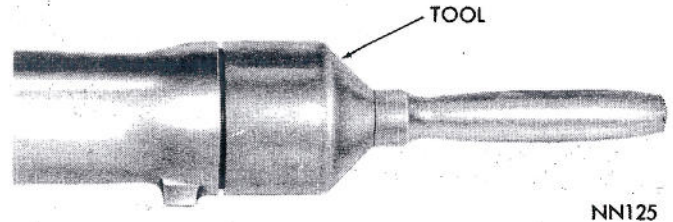

Fig. 7—Installing Extension Housing Yoke Seal
(3) To install a new seal, position seal in opening of extension housing and drive it into the housing with Tool C-3995 or C-3972 (Fig. 7).
(4) Carefully guide front universal joint yoke into extension housing and on the mainshaft splines. Align marks made at removal and connect propeller shaft to rear axle pinion shaft yoke.